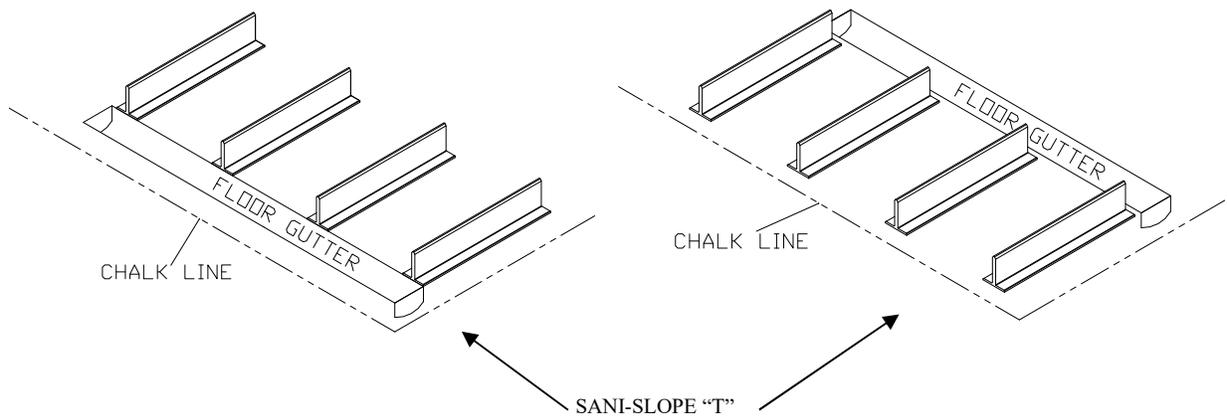

Figure 6
4. Layout the "Sanislope T" sections approximately where they will lie on the final floor plan as shown in Figure 6. **Note: be sure that the end blocker that was installed in step 2 is at the outside or gate end of the run. Optional:** This system is designed to function equally well whether it is fastened to the floor or not. If you do not want to fasten it the floor skip to step 6; otherwise proceed with step 5.